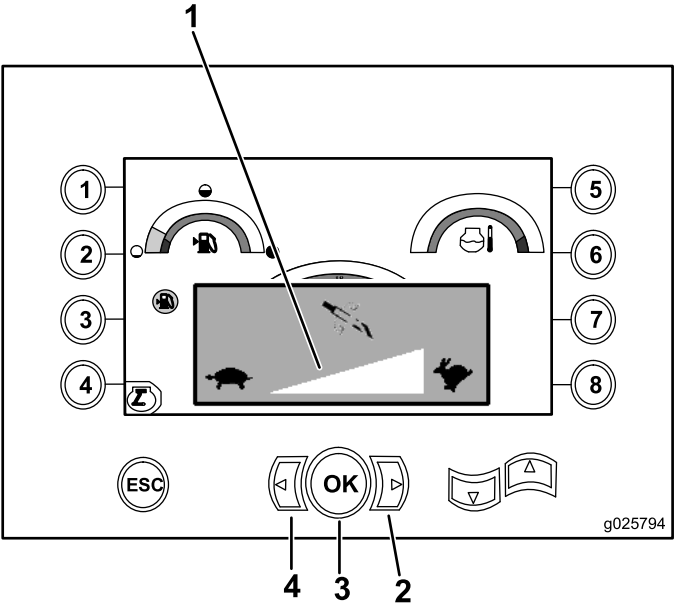

Figure 18
1. Press the Left arrow to decrease the speed, or press the Right arrow to increase the speed (Figure 18).
2. Press the OK button to set the drill-rotation speed (Figure 18).